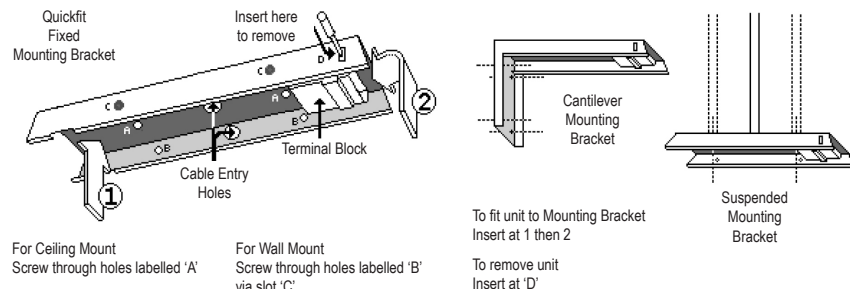

Figure 1: Quickfit Mounting Bracket Details
2. If all looks okay, take the mounting bracket and whilst holding it into place against the ceiling or wall, use a pencil to mark the position of the screw holes (at A and/or B in Figure 1) and cable entry position through the bracket onto the ceiling or wall as appropriate. Make sure to allow at least 50mm of free space to the right hand side of the final location of the unit to allow for the sliding function of attaching the unit to the mounting bracket. If need be, turn the bracket around and swap the diffuser with the back plate to permit room for inserting and removing the unit from the mounting bracket. Orient the bracket in such a way as to make the LED and push button readily visible and accessible when the unit is installed.